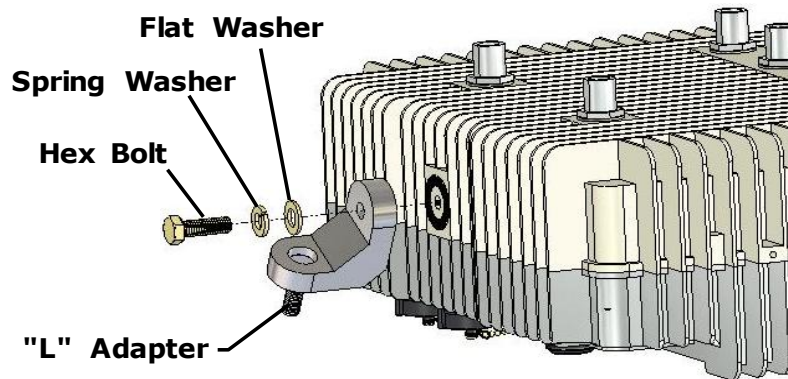

Figure 1: Mount 'L' Assembly
- Attach the 'L' adaptor to the MBW 1100 (WLP) using an M8 x25 hex bolt [E], a spring washer [G], and a flat washer [F], as illustrated in Figure 1.